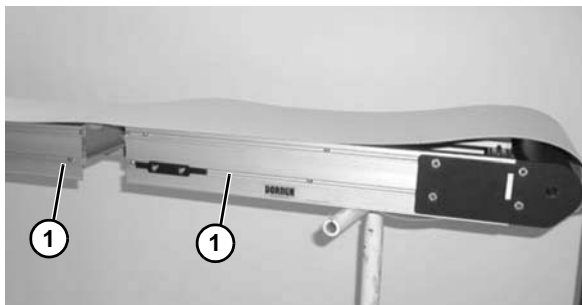

Figure 10
- Roll out conveyor belt and place conveyor frame sections (**Figure 10, item 1**) into belt loop.